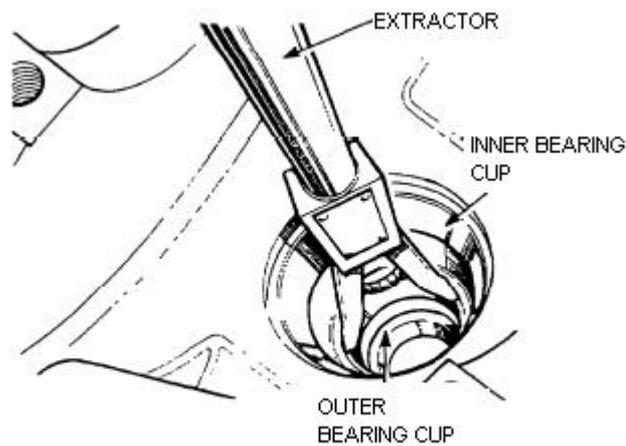

Figure 209 Removing the Pinion Bearing Cup
- q. Using the extractor (Table 3, Serial 51), remove the inner and outer pinion shaft bearing cups from the casing. Remove the shims fitted behind the inner bearing cup (Figure 209) and record the shim thickness.